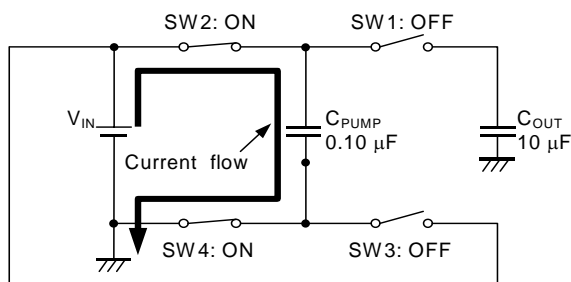
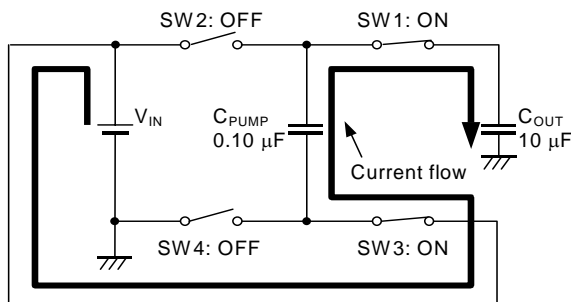

Figure 8
Figure 9
Figure 8 shows the charge cycle, and Figure 9 shows the discharge cycle.
- The ON/ $\overline{\text{OFF}}$ pin is configured as shown in Figure 9 and is neither pulled up or down internally, so do not use this pin in a floating state. When not using the ON/ $\overline{\text{OFF}}$ pin, connect it to the VIN pin.